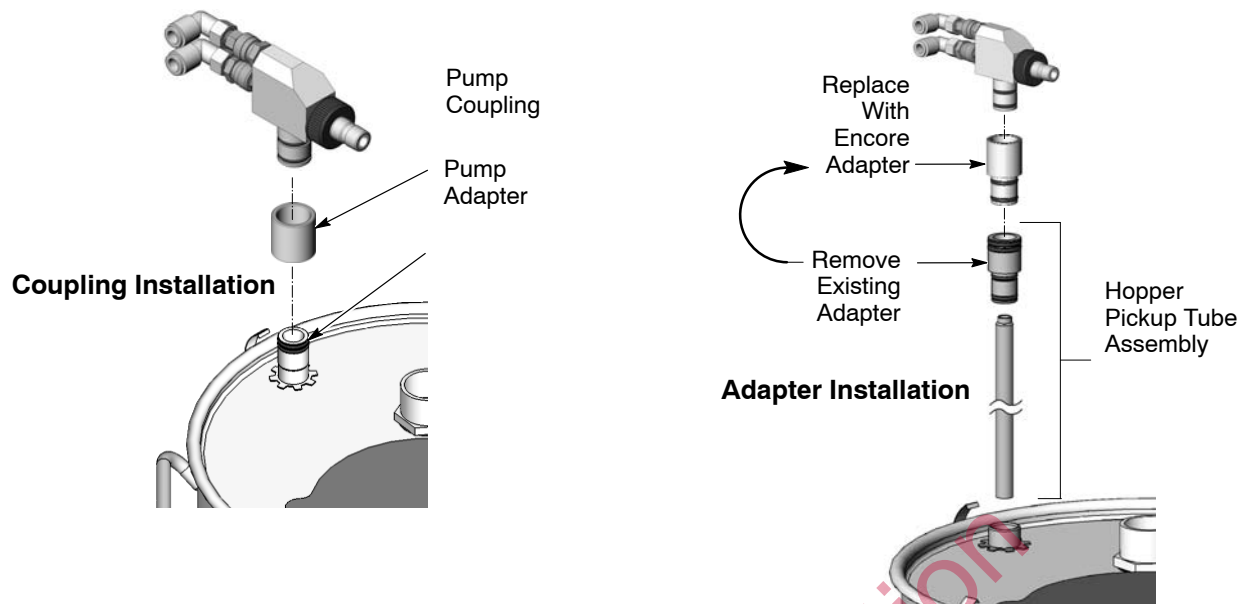

Figure 3-8 Pump Mounting with Adapter Kit or Coupling on HR or NHR Hoppers
1. See Figure 3-8. Remove the pickup tube from the pump mount in the hopper lid, then unscrew the existing adapter from the pickup tube.
See Figure 3-8. The coupling allows you to use the existing pump adapter. Install the pump coupling on the existing pump mount with a slight twisting motion, then install the pump into the coupling with the same motion.